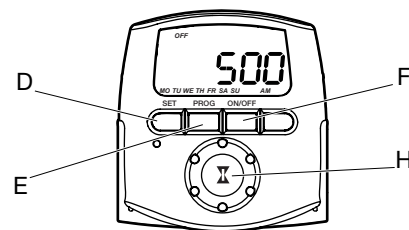

FIG 8. Changing the Dawn (OFF) Time
1. Press **PROG** (E).
2. Turn the selector knob (H) until OFF is in the top left corner of the screen. Press **PROG** (E).
3. Turn the selector knob (H) so that a time appears on the screen. Press **PROG** (E).
4. Turn the selector knob (H) to select the correct OFF hour. Press **PROG** (E).
5. Turn the selector knob (H) to select the correct OFF minute. Press **SET** (D). See FIG. 8.